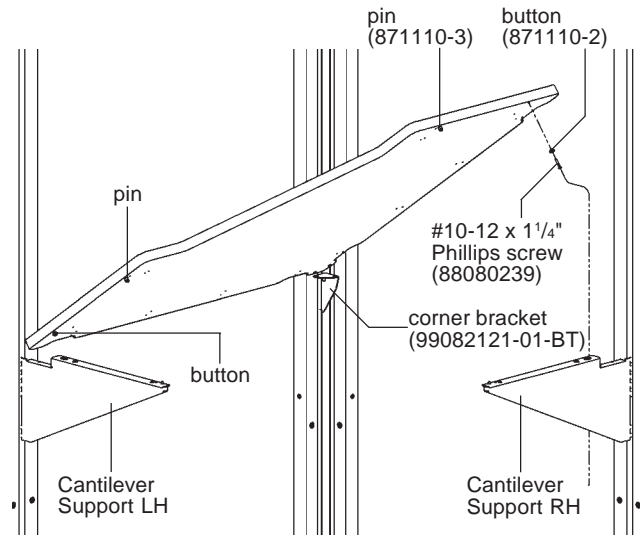

Figure 1
1. Engage right-hand Cantilever or B Support in right frame at designated height. Push support down to securely seat in frame. Repeat procedure with left-hand support in left frame and the corner bracket in the corner. (Figure 1)
2. Remove the #10-12 x 1 1/4" Phillips screw and button from the right-hand side of the surface. (Figure 1)
3. Align the button on the left side of the surface with the large end of the teardrop slot on the support. Slide surface back to engage. Drop the pins in both the left and right-hand sides of the surface into the large round holes near the front of the brackets. (Figure 1)
4. Reinstall the #10-12 x 1 1/4" Phillips screw and button through the support and into the surface on the right-hand side. (Figure 1)